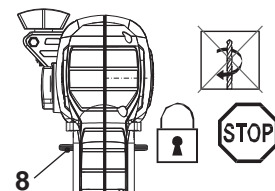

Fig. 9
Move the forward / reverse rotation control (8) to the centre position to lock the On/Off switch (9) and avoid accidental starting (Fig. 9).